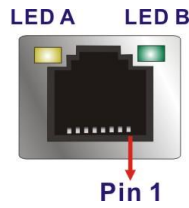

Figure 3-31: LAN LED Location
- CN Location:** See Figure 3-31